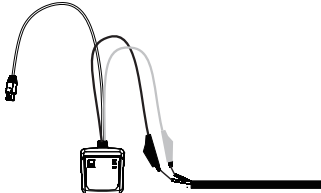

Figure 5 Continuity test
9.Continuity test (see Figure 5)